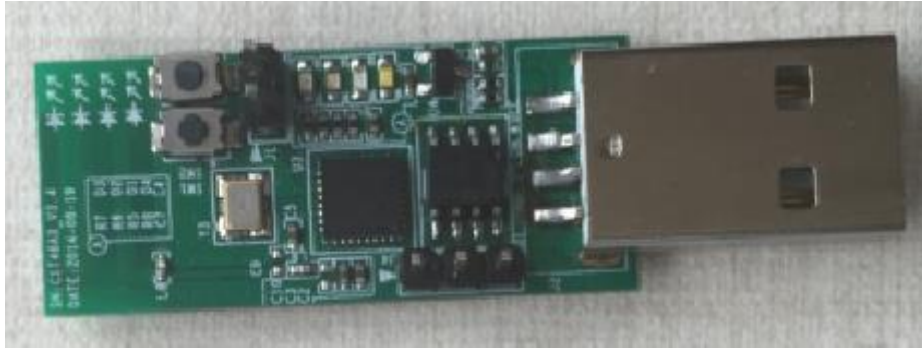

Figure 1 BLE light module/Master USB dongle
- BLE light modules: As shown in **Figure 1**, this module emulates BLE light control board and it contains 512KB Flash, 2 buttons (SW1 and SW2), 4 LED lights, USB and Single Wire interface for programming and debugging. The lights' on/off, brightness, and RGB value can be controlled via Telink BLE switch.
- 1 OTA-Master dongle, as shown in **Figure 1**. The dongle can be used as update board for firmware update on the BLE light module through OTA.